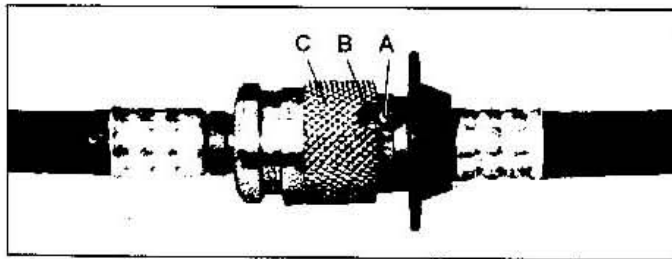

FIGURE 1
7. If the hose to the breathing regulator is equipped with a quick disconnect (See STANDBY INSPECTION, CLEANING AND STORAGE Section for instruction on operation of the quick disconnect coupling on regulator assemblies), check that the quick disconnect is engaged properly and that sleeve "C" is rotated 1/4 to 1/2 turn so notch "B" does not line up with rivet head "A". Test for proper engagement by tugging on the coupling. See Figure 1.